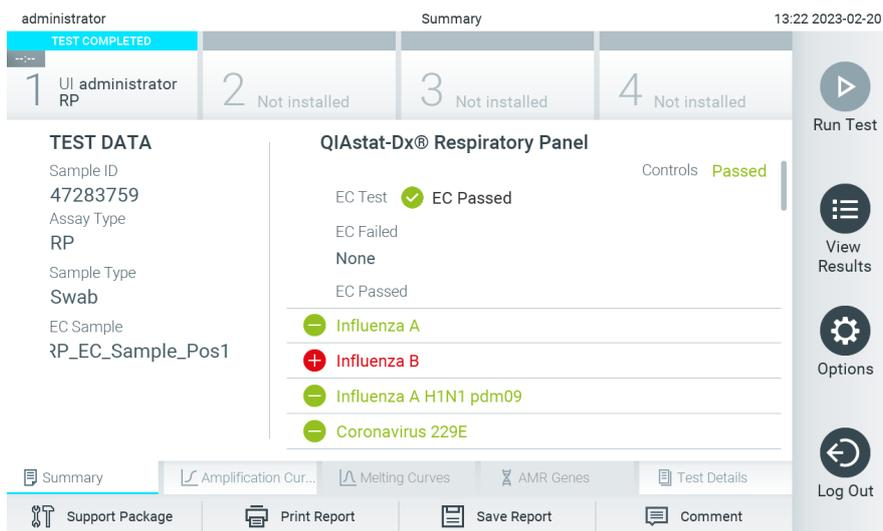

Figure 100. EC Results Summary screen.
- After the QIAstat-Dx assay cartridge has been ejected, the results Summary screen will appear (Figure 100). Refer to Section Viewing EC test results for further details.